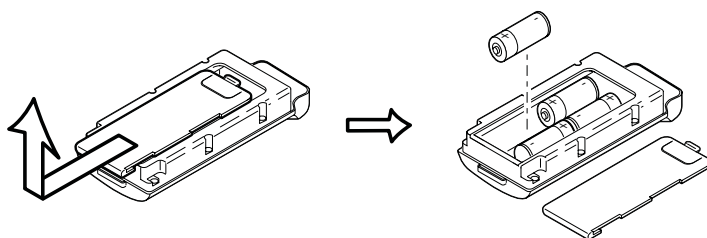

Figure 2-16. Remove Cover and Insert AA Batteries
To assemble the AA battery shell (Figure 2-16):
2. Insert four AA batteries as shown on the inside of the shell (and in Figure 2-16 below).